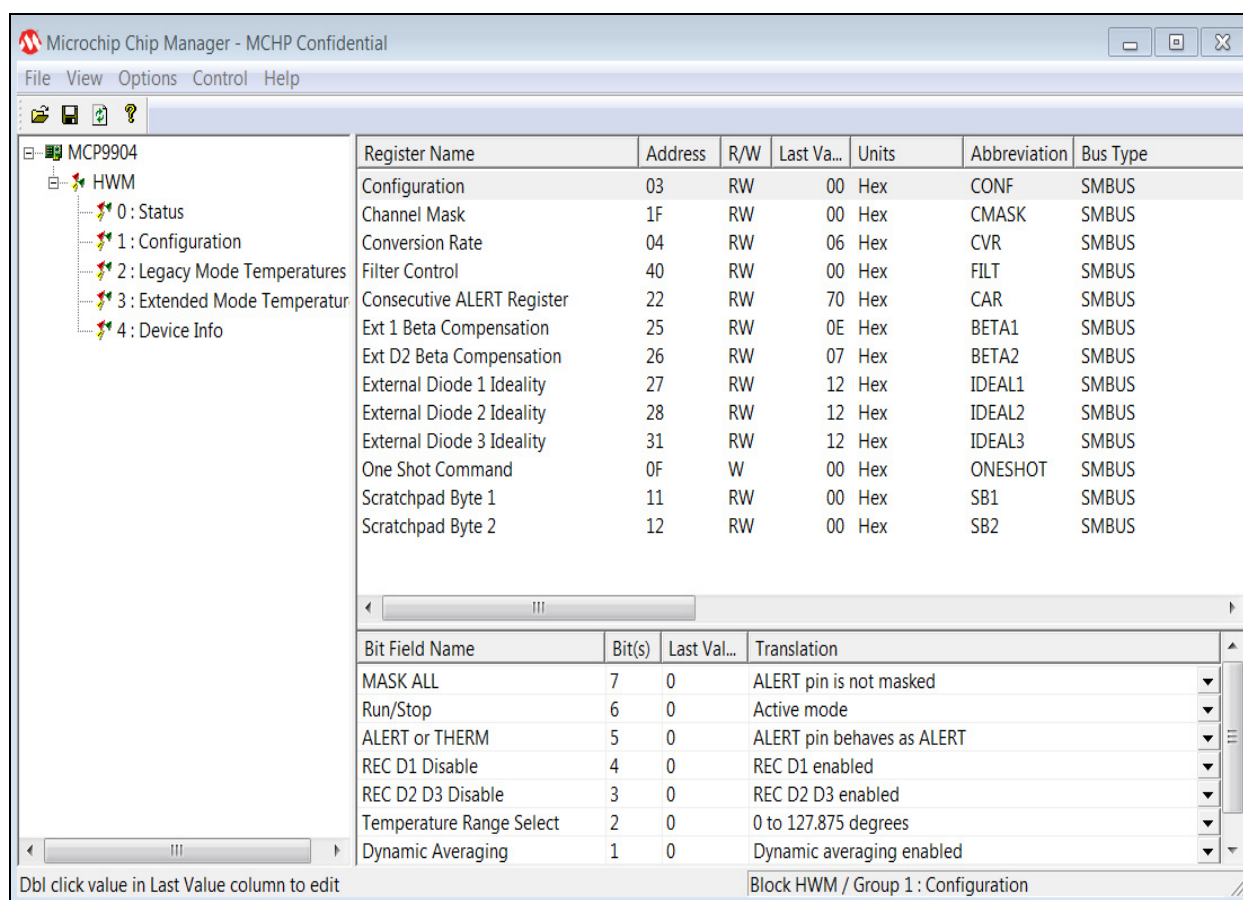

FIGURE 2-12: Chip Manager – Configuration Window.
15. To reveal the register descriptions in Chip Manager, highlight “Configuration” as shown in Figure 2-12. The “Bit Field Name” and “Translation” will be shown in the Chip Manager window. For a detailed description of each register, please refer to the MCP990X Data Sheet.